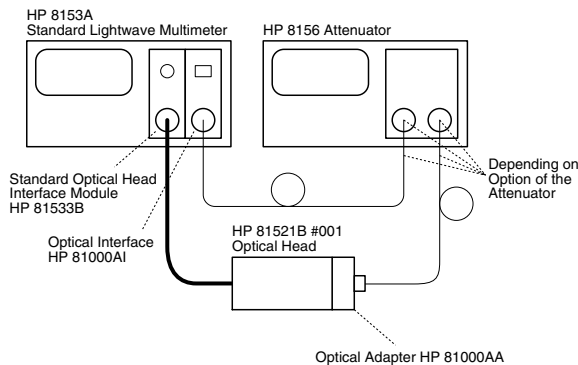

Figure D-5 Linearity Test Setup
- 1 Connect the equipment as shown in Figure D-5.